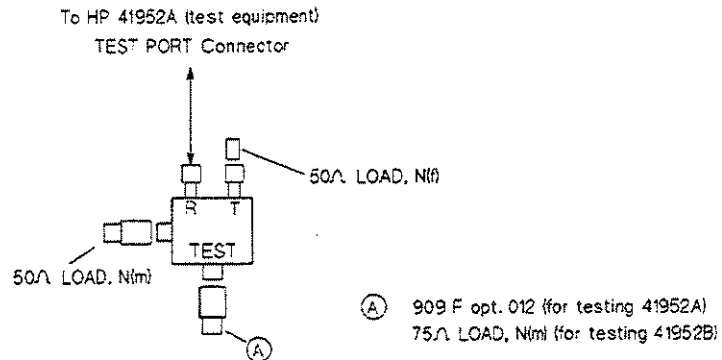

Figure 4-4. INCIDENT connector Port Match Test Setup
- b. Connect the HP 85032B's N(f) LOAD standard to the REFLECTED (T) connector of the HP 41952A/B (under test).
- c. Connect the HP 85032B's N(m) LOAD standard to the RF INPUT connector of the HP 41952A/B (under test), as shown in Figure 4-4.
- d. Connect the INCIDENT (R) connector of the HP 41952A/B (under test) to the TEST PORT connector of the HP 41952A (test equipment).
6. Disconnect the HP 85032B's N(f) LOAD standard from the REFLECTED (T) connector of the HP 41952A/B (under test).